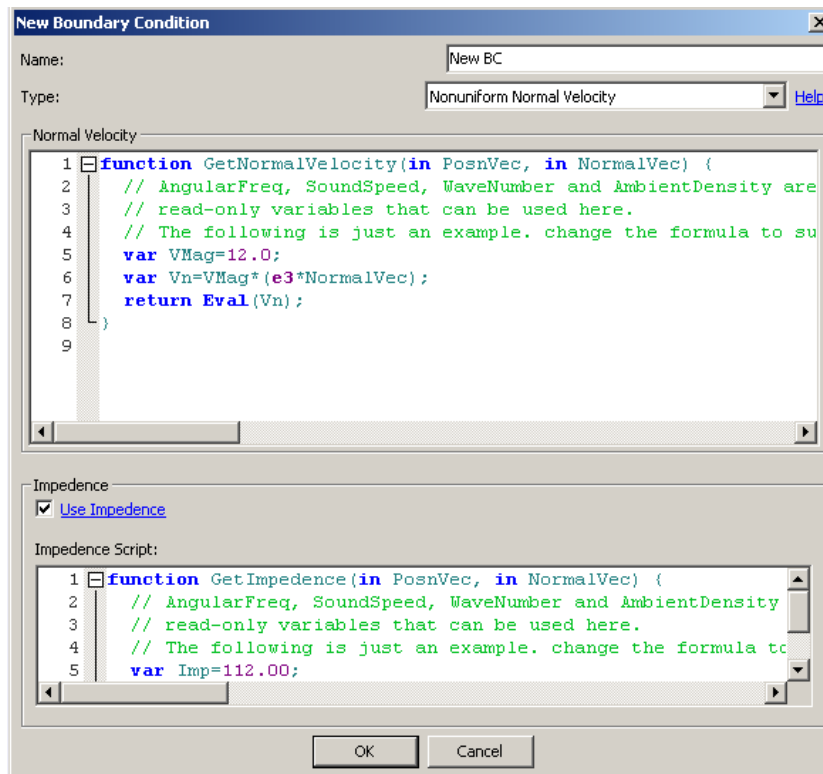

Figure 6.12: Non-Uniform Normal Velocity BC.
This Boundary Condition is applied on the element where normal velocity (Note: normal velocity is defined with respect to the domain normal, Figure 6.4) varies with position and normal. The normal velocity is defined in the script by the function *GetNormalVelocity*, which takes in the predefined variables *PosnVec* and *NormalVec* as the arguments. The variable *PosnVec* reads the coordinates of a point on the element, that is $PosnVec=(x,y,z)$. The variable *NormalVec* reads the components of the domain normal vector at a point on the element, that is $NormalVec=(n_x,n_y,n_z)$. The special vectors **e1**, **e2**, **e3** are predefined unit vectors in coordinate directions of the reference frame which can be used in the *Coustyx* scripts. When *Use Impedance* option is disabled, the *Normal Velocity* defined in this boundary condition (BC) is considered to be the particle normal velocity (v_{ni}). (Figure 6.12.)